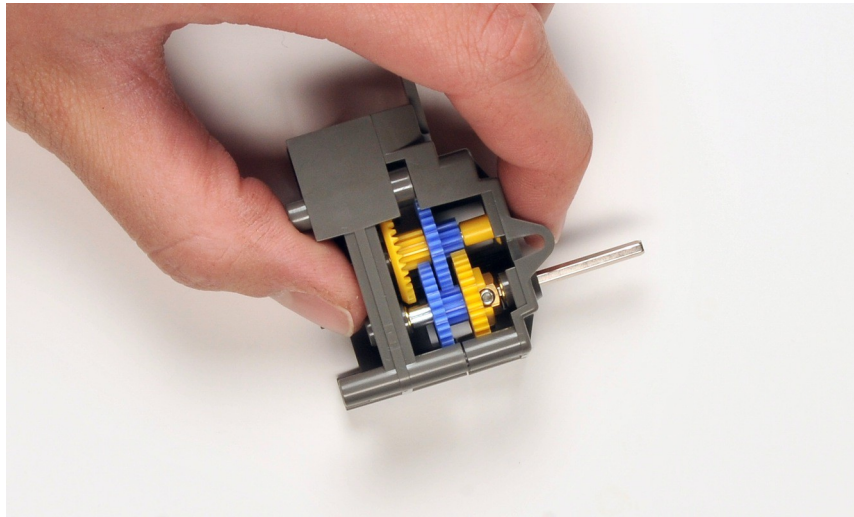

*Figure 1.19*
16. Place an eyelet onto both the smooth and hex shaft, as shown in figure 1.19.